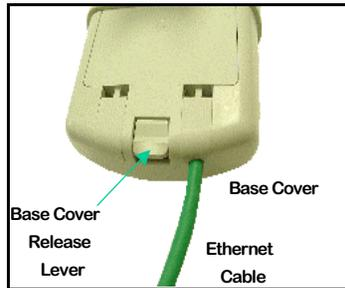

FIGURE 1
Remove the base cover as shown in FIGURE 1 to access the Ethernet connection and the Connection LED alignment indicators.
3. While this graph is displayed on your computer monitor, an identical bar graph also will display on the LEDs located inside the Canopy Subscriber Unit Base Cover (FIGURE 1).